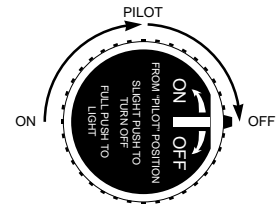

Figure 6 - OFF Position
2. Turn control valve knob 1/4 turn to right to PILOT position. Slightly push in knob and turn 1/4 turn to right to OFF position (see Figure 6).